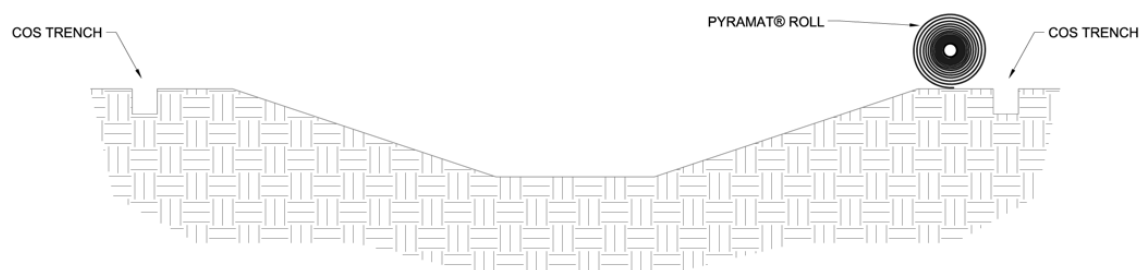
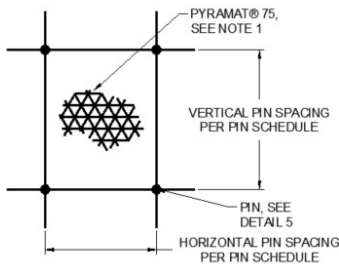
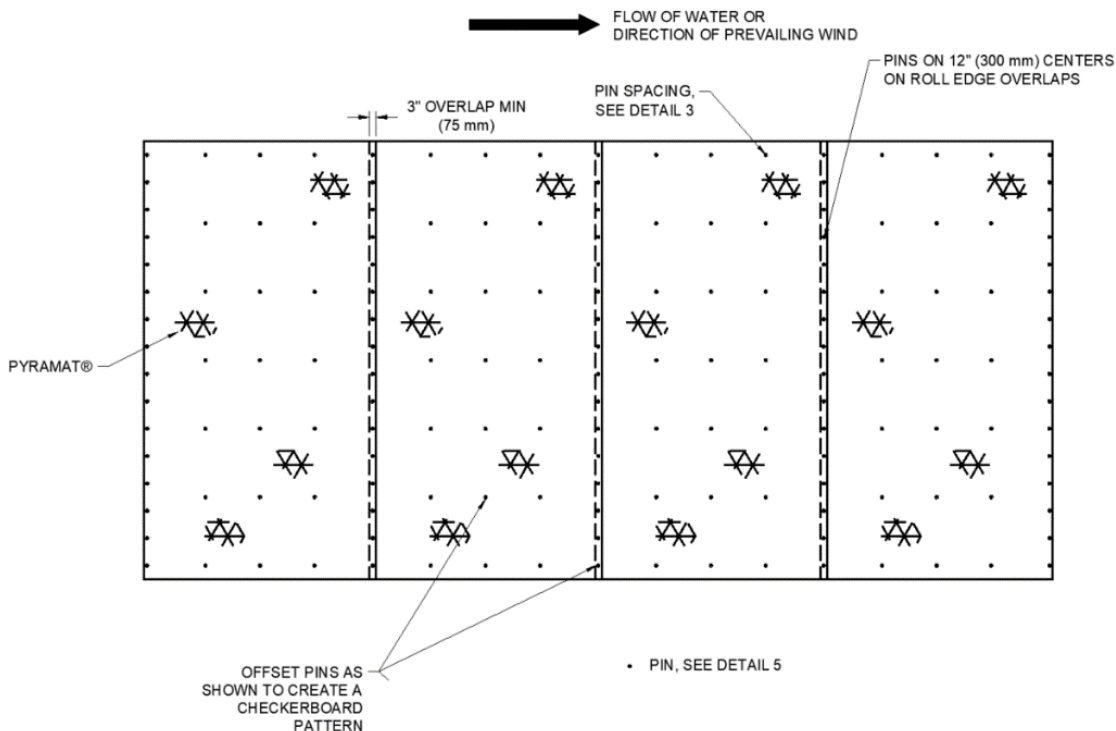

Figure 8: Top of Bank (COS) trench alignment
Figure 11: Example pin pattern
Figure 12: Example edge overlap pattern
6. Place the next panel by laying the **PROPEX** Pyramat roll so that the roll end points towards the COS trench (Figure 8), with a 3 in (75 mm) overlap created at adjacent panel edge locations. Ensure that adjacent panel edges maintain a minimum 3 in (75 mm) and a maximum 6 in (150 mm) overlap during **PROPEX** Pyramat laydown (Figure 12).
10. Secure **PROPEX** Pyramat panels in place using pins across the channel surface according to the project's engineered design. Pin placement should reflect a checkerboard pattern across the channel surface for best results (Figure 11 and Figure 12).
- Roll edges shall be overlapped a minimum of 3 in (75 mm) and a maximum of 6 in (150 mm) with pins placed on 12 in (300 mm) centers (Figure 12).
13. Continue to work down the length of the channel by repeating steps 6 through 9 overlapping each adjacent panel by 3 in (75 mm) (Figure 12). The last panel should terminate on the Terminal Channel (TC) trench with pins on 12 in (300 mm) centers.